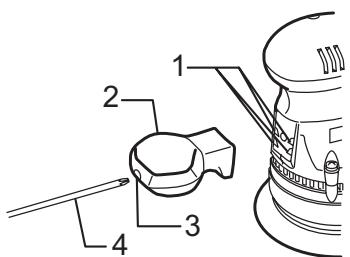

Fig.3
► Fig.3: 1. Notches 2. Front grip 3. Hole in front grip